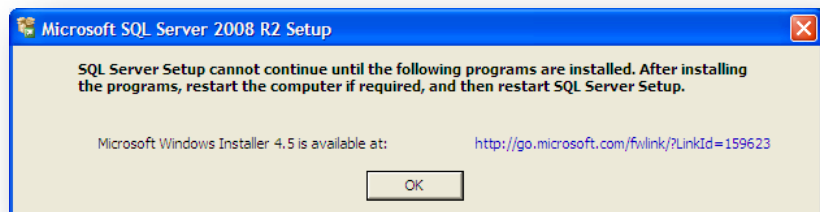
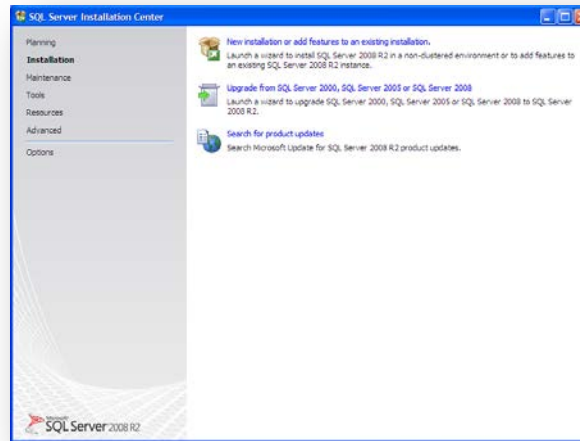

Figure 42 - Microsoft Windows Installer 4.5 Requirement
Figure 43 – SQL Server Installation Center
8. Verify that the selected role services resemble Figure 42 below and Figure 43, then click “Next”.